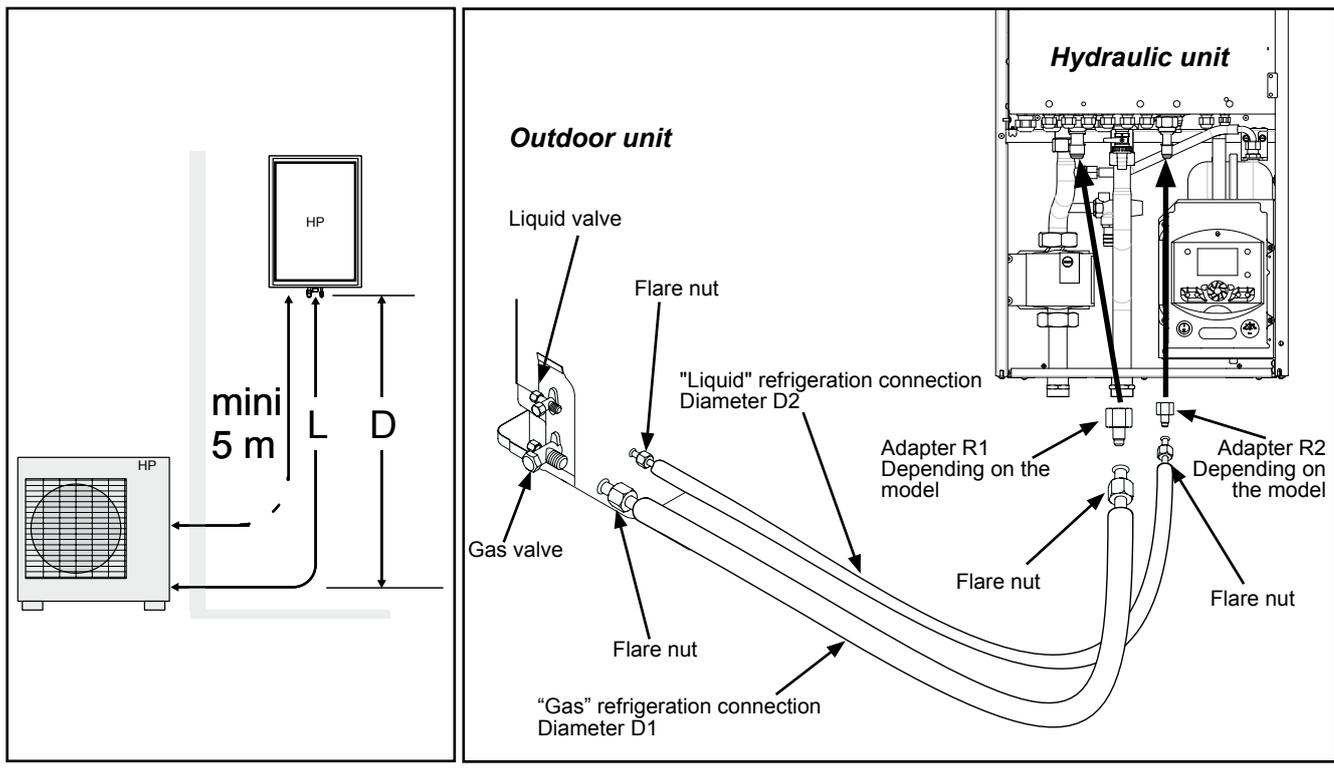

figure 16 - Connecting the flared connections (Pipe diameters and permissible lengths)
- Comply with the indicated tightening torques (see figure 16).
- Refit the 2 plugs and tighten them to the recommended tightening torque (figure 16, page 19).